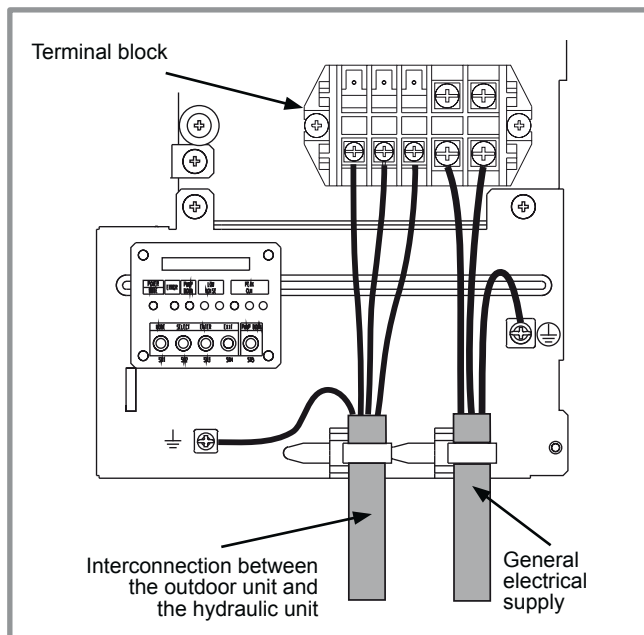
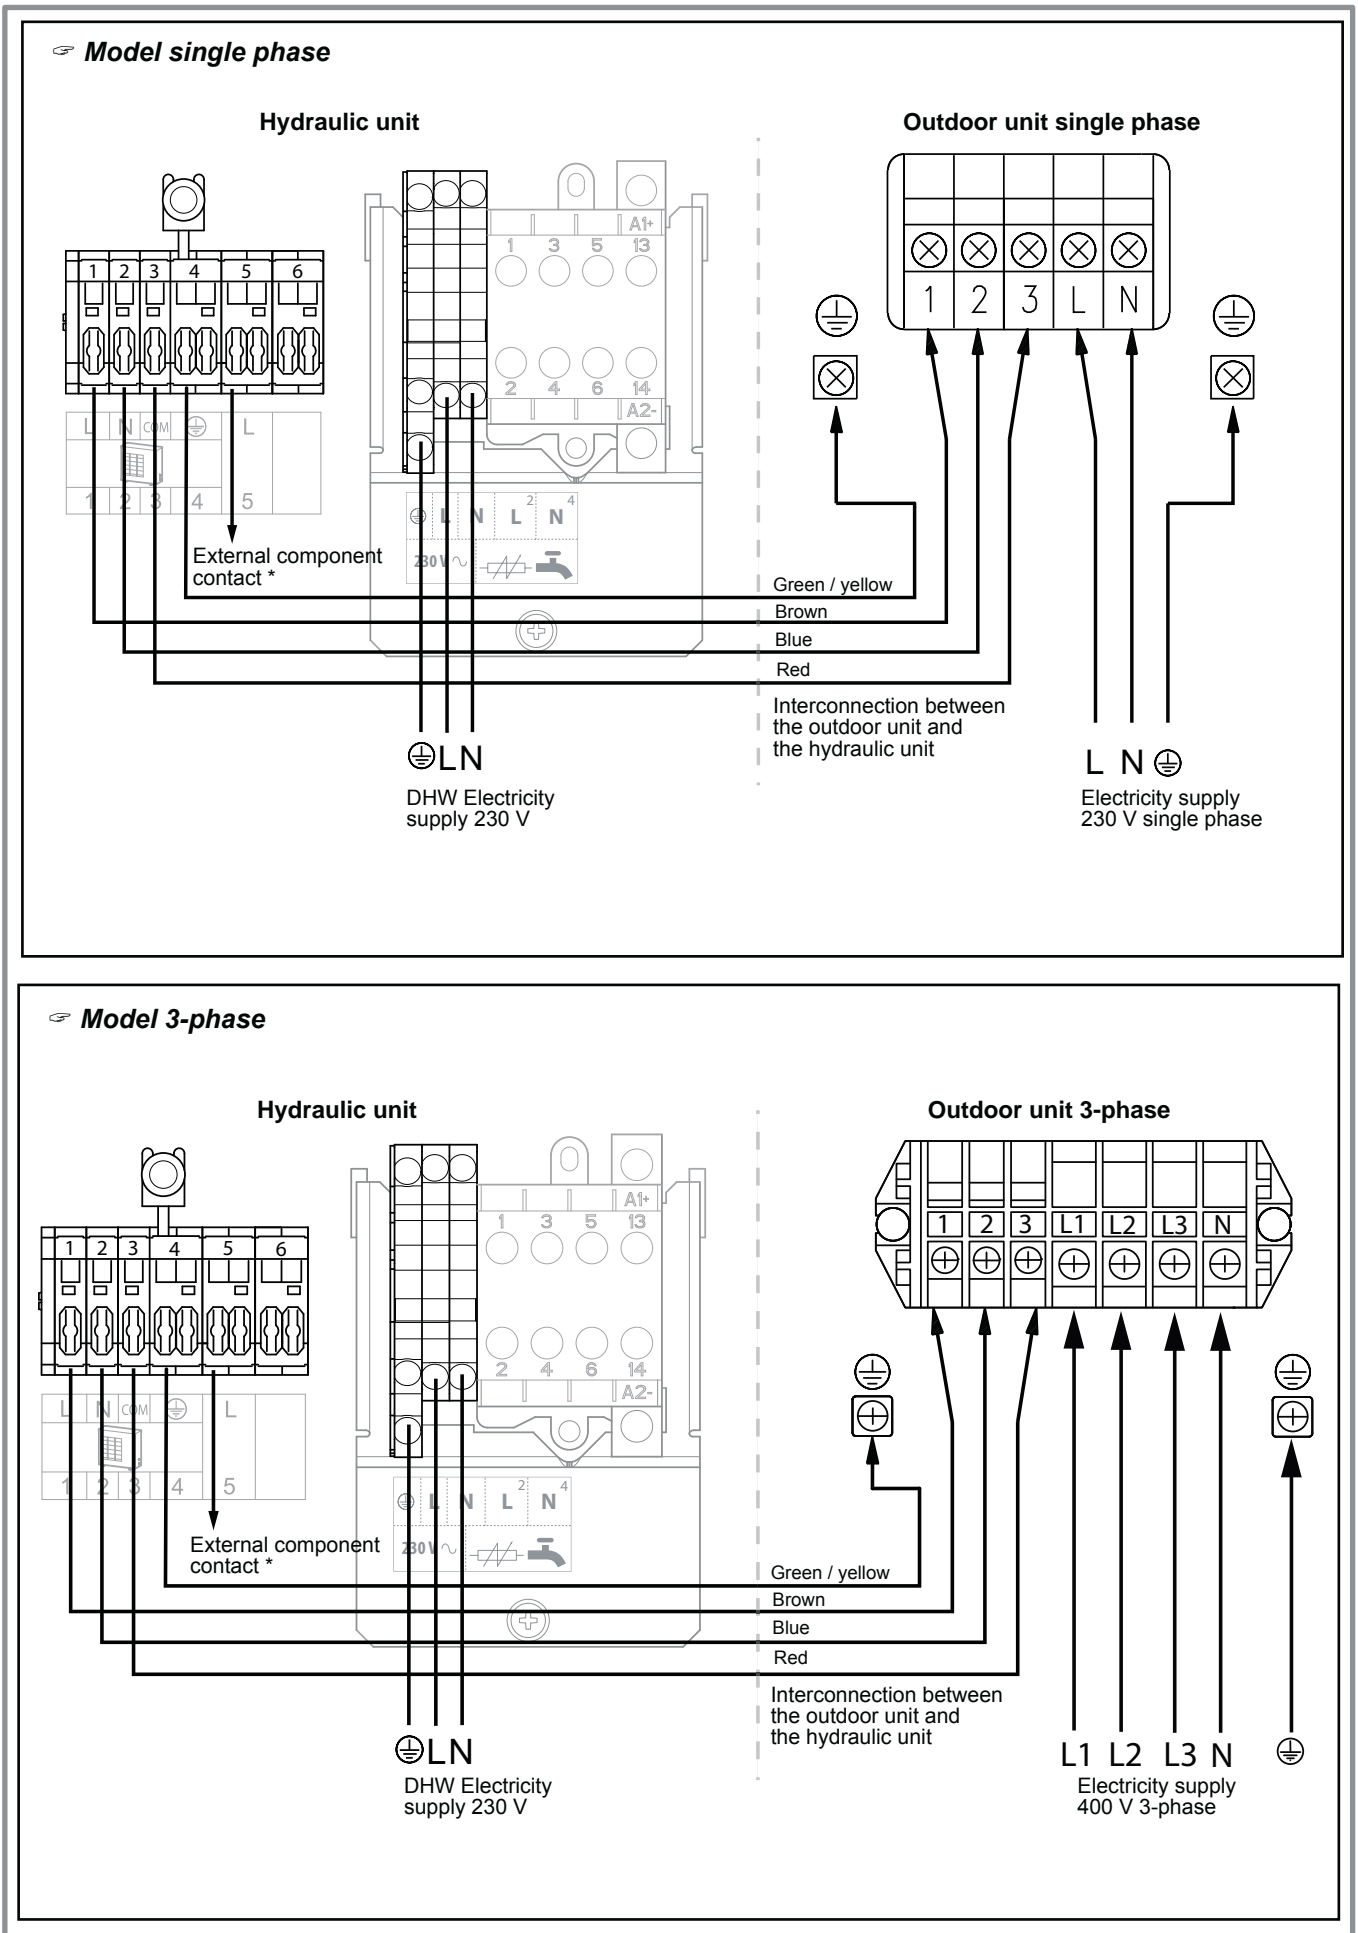

figure 33 - Connections to single phase outdoor unit's terminal block
figure 40 - Connection to terminal block and power relays
- Make the connections in accordance with the diagram figure 33 et figure 40, page 33.
- Make the connections in accordance with the diagram figure 40.